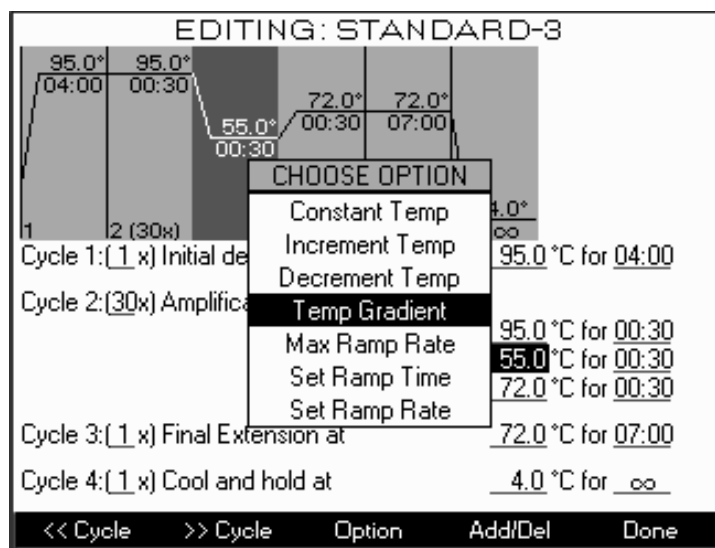

Fig. 3.3. Edit options: Setpoint temperature.
- If the cursor is on a temperature field when you press **F3-Option**, a menu will offer the choices **Constant Temp**, **Increment Temp**, **Decrement Temp**, **Temp Gradient**, **Max Ramp Rate**, **Set Ramp Time**, and **Set Ramp Rate** (Figure 3.3).